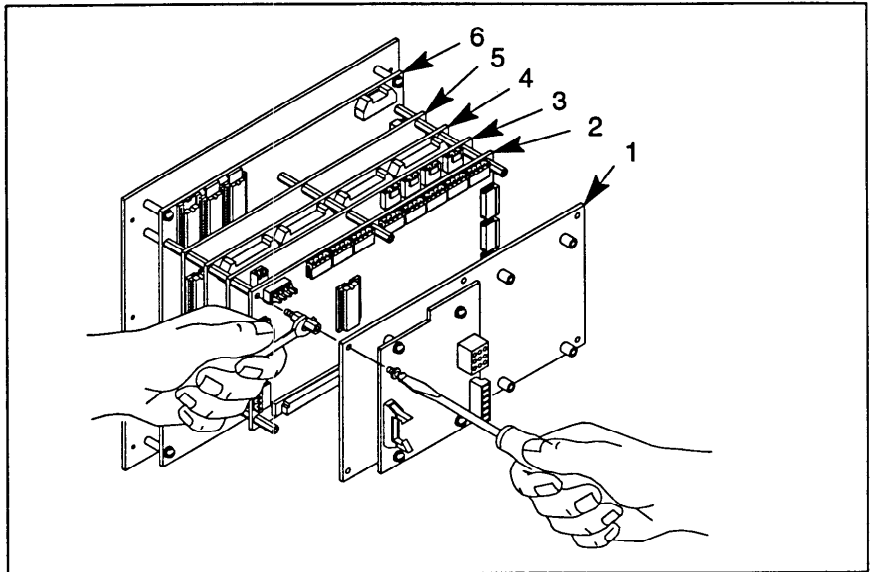

Figure 6. Removing boards and mounting plate
2. Refer to Figure 6 and using a screwdriver and a 1/4-in wrench, remove the four mounting plate screws and set the mounting plate aside. One of the interface boards will still be mounted to the plate, and does not need to be removed.
3. Refer to Figure 6 and (except the ACU board) continue to remove the remaining boards from the controller assembly as follows:
1. Reinstall the I/O, Motor/Pressure, Analog, and RS-232 boards by referring back to figure 6 and performing its associated procedural steps in reverse order.